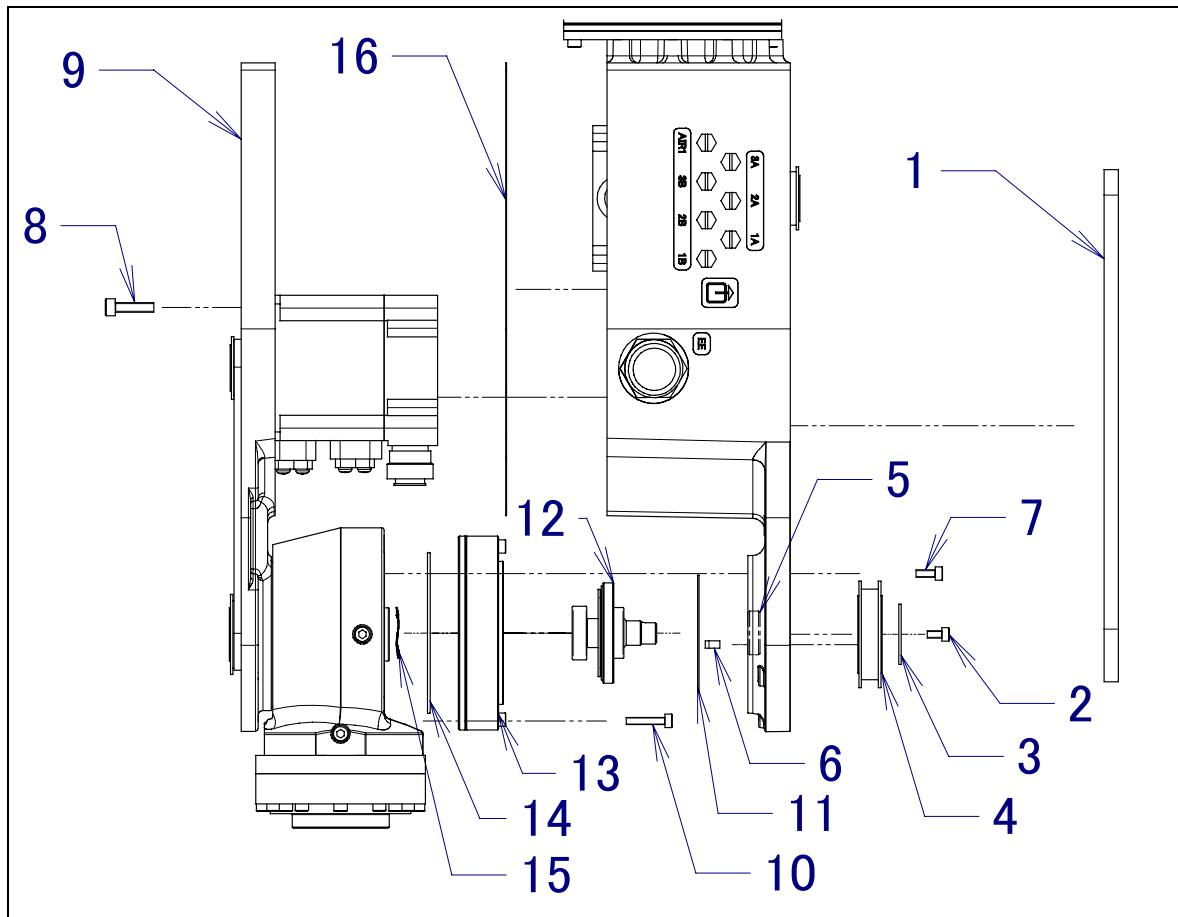

Fig. 4.11(a) Replacing J5-axis reducer
- 5 Remove seal bolt (2), washer plate (3) and pulley (4)
- 6 Remove key (6) and bolt (7).
- 7 Remove seal bolt (8) and J3 arm (9). When severe dust/liquid protection specification is specified, remove packing (16), too. In this time, pay attention not to damage oil seal (5). Pay attention that there is a possibility that grease goes out, too.
- 9 Remove bolt/plated bolt (10) and remove reducer (13).
- Fill grease to the reducer. It is total 7ml greasing in inside of reducer, gear and bearing of wave generator and install it horizontally. Install O-ring (11) and (14) and wave washer (15) without forgetting.
- Apply grease to the lip of the Oil seal (5)
- When severe dust/liquid protection specification of LR Mate 200iC, LR Mate 200iC/5L or LR Mate 200iC/5C,5LC,5WP is specified, spread sealant to the reducer referring to Fig.4.11 (b).